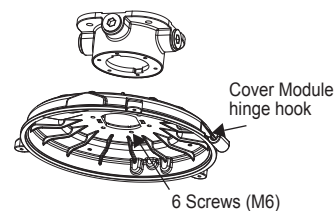

Figure 2
- Attach the cover module A to the mounting module (18lb-in. 6point Screw M6) - Figure 2